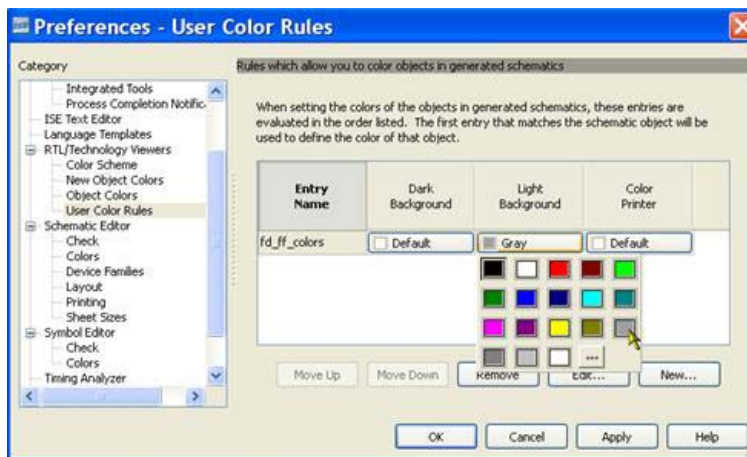

Figure 7-10: Selecting Light Background Gray
- In the **Light Background** column, select **Gray** as the color (see Figure 7-10) for created **fd_ff_colors**, and then press **OK**.